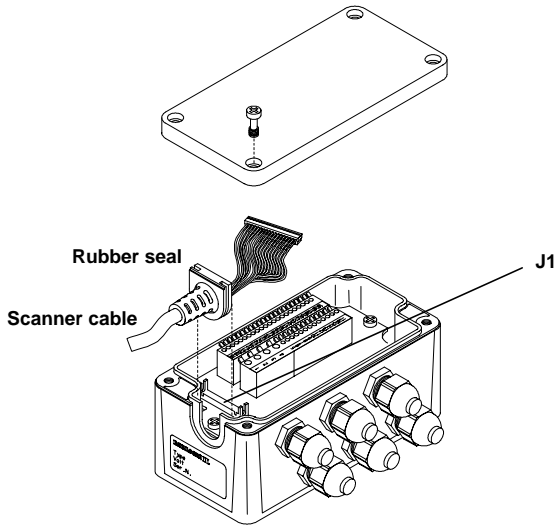

Figure 2.9 - Scanner cable connections to the junction box
- 4) After wiring the junction box and while the scanner is unplugged from the power supply, place the Scanner cable so that the rubber seal fits into the cutout in the housing of the junction box and plug the 24-pin connector into connector J1 on the PCB inside the junction box as shown in figure 2.9.